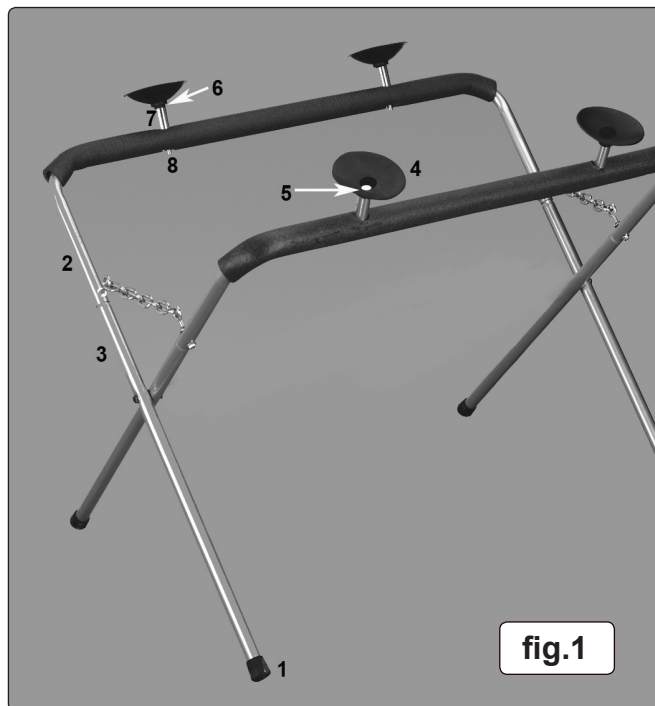

fig.1
- 4.4. Connect the two frame members as in fig.1, using bolts (fig.5), washers (fig.2.8), centre washer (fig.2.6) and lock nut (fig.2.7).